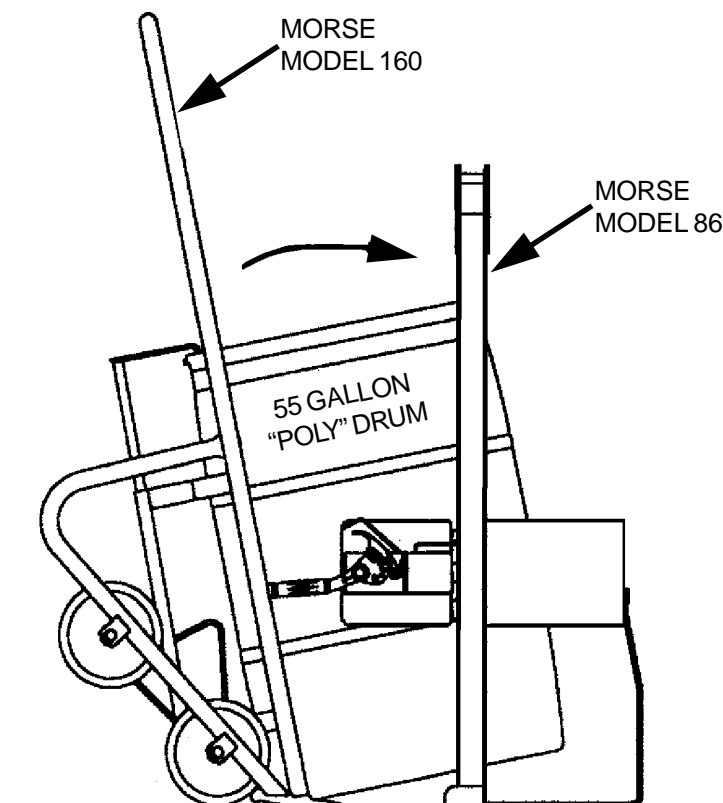

Figure 1
4. Using a drum hand truck (ie. Morse Model 160), carefully place the drum onto the base of the 86 so that the drum rests into the saddle band (see Figure 1).
5. Drape the cinch chain (item 4) across the face of the drum and engage a link into the slot on the ratchet and tighten the cinch chain around the drum by turning the ratchet handle clockwise.
7. To remove drum from the 86, release tension in the cinch chain (item 4) by turning ratchet handle clockwise to relieve the force on the pawl (item 8), and lifting the pawl away from the ratchet. Once the cinch chain is slack, remove the link from the slot in the ratchet. Remove the drum from the 86 using a drum truck.